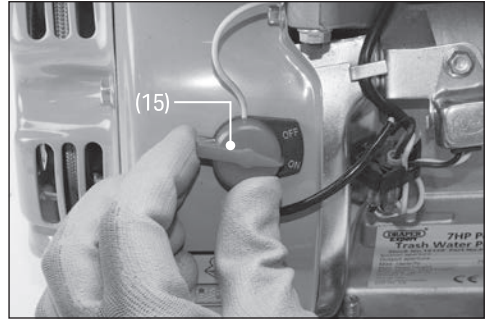

Fig. 12
6. Turn the engine switch (15) to the 'ON' position (Fig.12).